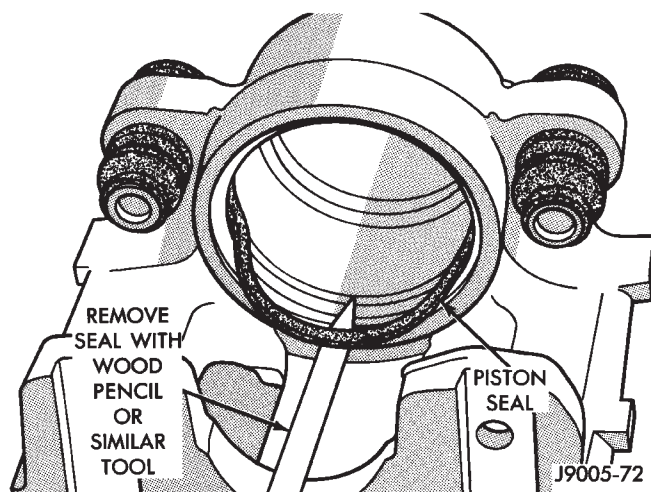

Fig. 48 Piston Seal Removal
(6) Remove caliper piston seal with wood or plastic tool (Fig. 48). Do not use metal tools as they will scratch piston bore.